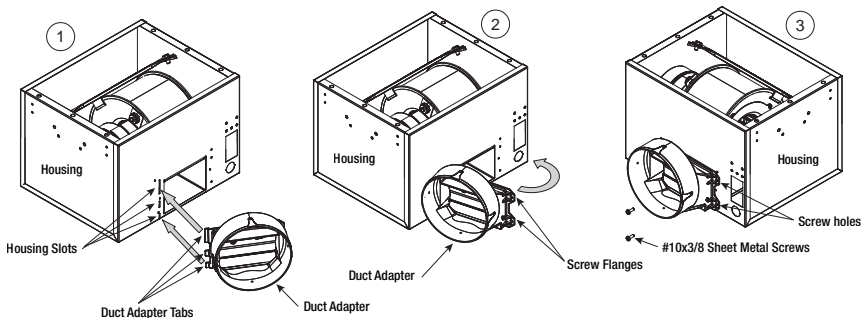

Figure 1
1. Refer to Figure 1. Insert duct adapter tabs into the housing slots.